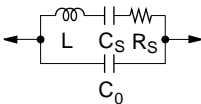

**Figure 22 Layout of Crystal and Ceramic Oscillators**
- Wiring between the OSC1/OSC2 pins (X1, X2 pins) and other elements must be as short as possible, and must not cross other wiring. Refer to the recommended layout of the crystal and ceramic oscillator in figure 22.